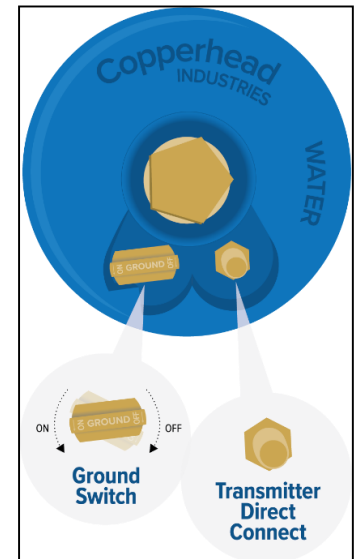

Fig. 3
10. Ensure ground switch is turned completely to 'ON' (Fig. 3).